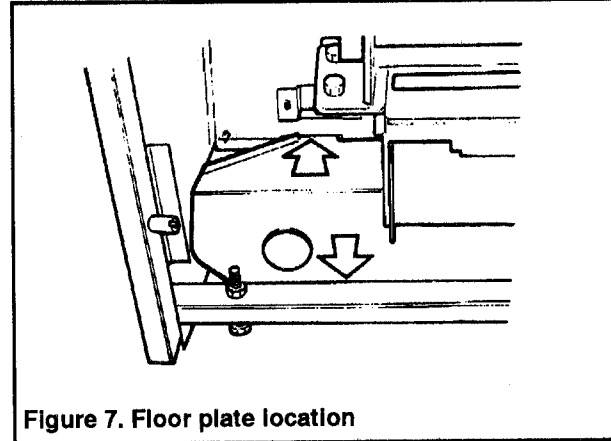

Figure 7. Floor plate location
- 4.3.5.** Fit the floor plate ensuring that the rear tabs locate in the slots in the back panel, and the front of the plate rests on the flange at the back of the bottom cross bar (see figure 7). Fitting the plate will be easiest if its right side is first fed in behind the gas tap and thermocouple and the left side of the plate is then swung into the fire.